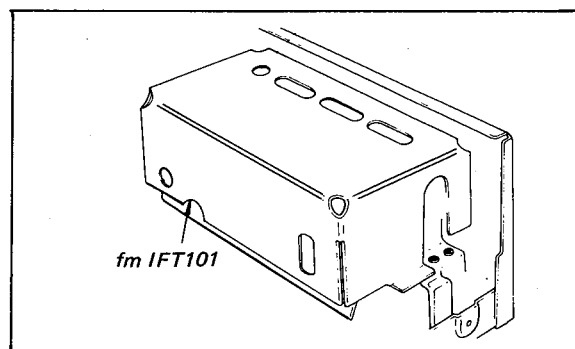

Fig. 3-2. Adjustment parts location
2. Adjust IFT101 (See Fig. 3-2.) for maximum deflection on the TUNER INPUT meter.